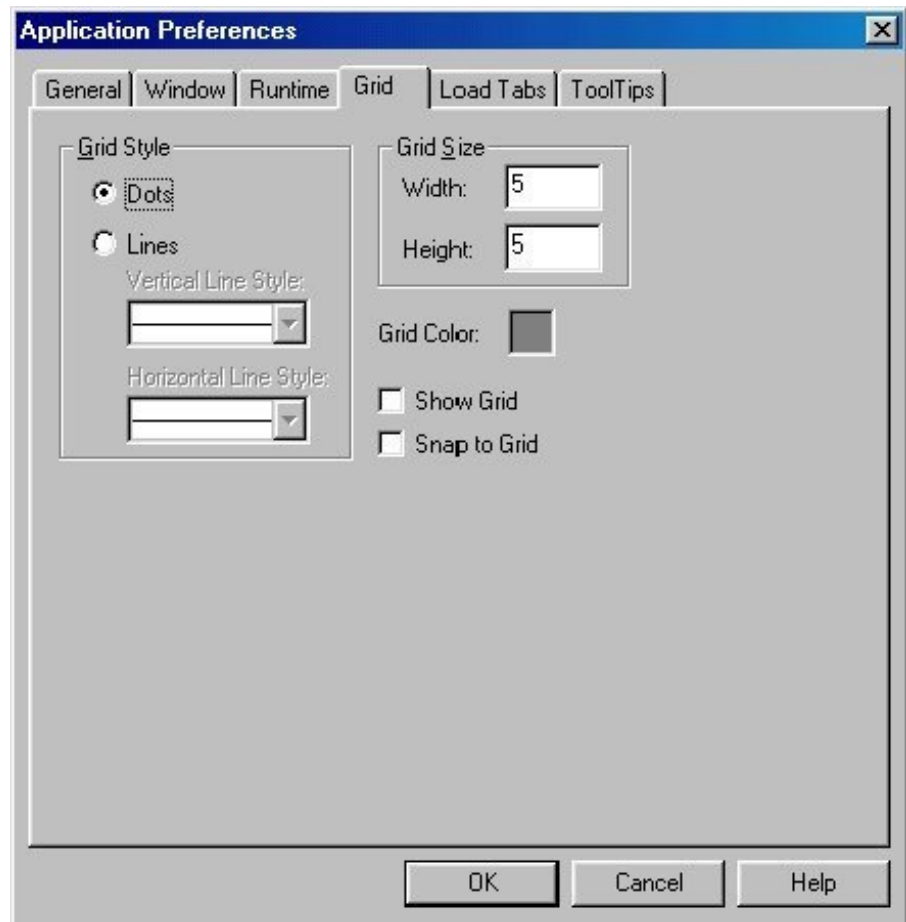

Figure 4-8: Application Preferences: Grid Tab
2. Select the Grid tab (Figure 4-8).